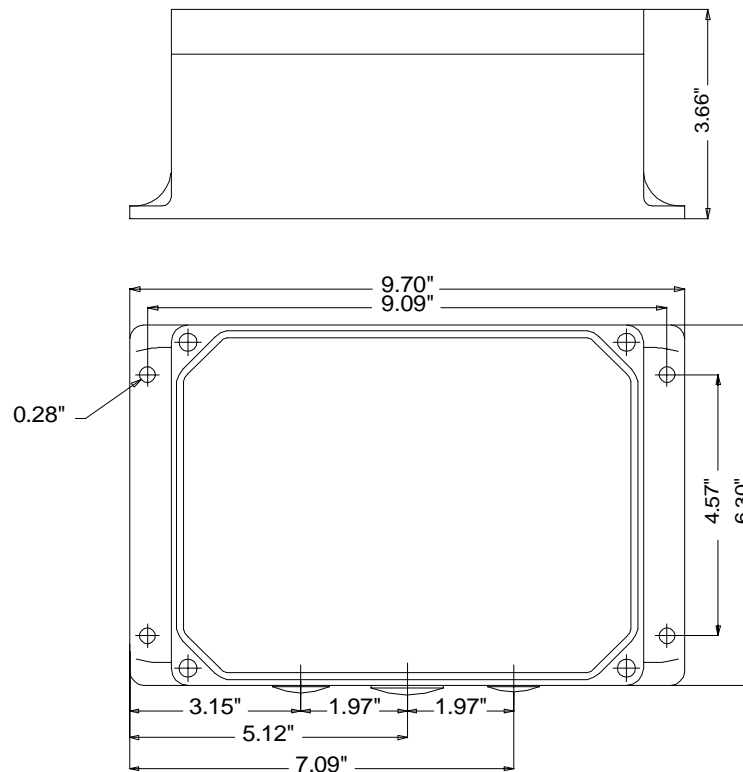

Figure 2.3: JRX-6 Enclosure Mounting Dimensions
Use Figure 2.3: JRX-6 Enclosure Mounting Dimensions for dimensions and mounting hole spacing.
2. Refer to Figure 2.3: JRX-6 Enclosure Mounting Dimensions. Drill holes 7 mm in diameter (.28 in.) into the mounting surface. The depth of the hole depends on the type of screw you are using to mount the receiver enclosure.